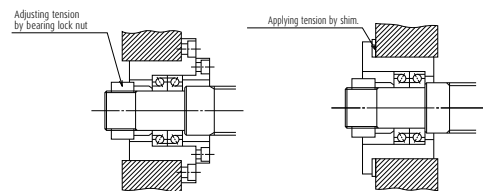

Fig. 1.2 Bearing structure to provide pre-tension
① Suppress heat generation.
② Use forced cooling.
③ Avoid effects of temperature rise on positioning.
- > Set pre-tension. (Fig. 1.2)
Fig. 1.2 shows the bearing support structure in such occasion.